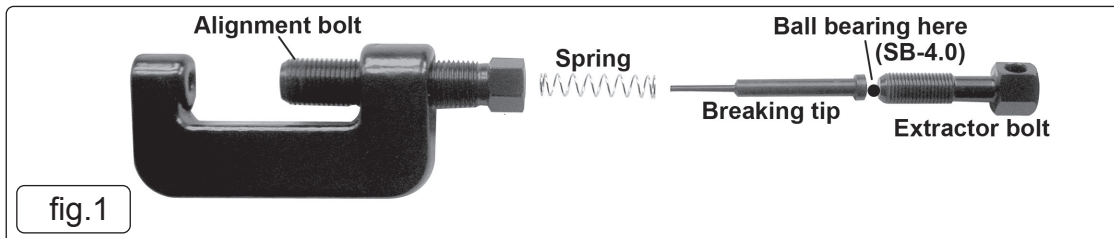

fig.1
4.1.1. Select correct size breaking tip (fig.1.3) for the chain to be worked on, position spring as shown fig.1. (Anvil not used).
- 4.2.1. Fit riveter tip (10) into the tool as per fig.1.